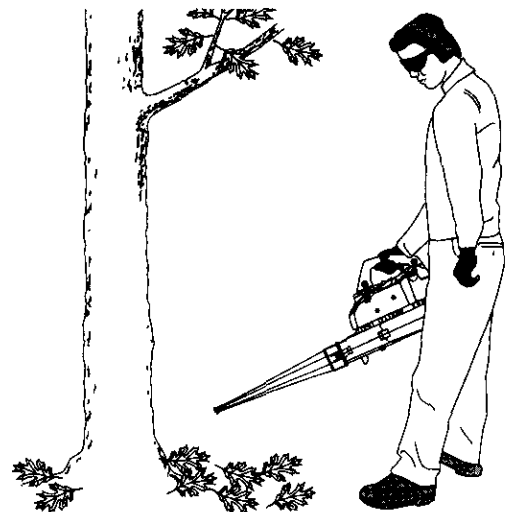

Fig. 15
2. Use for cleaning around gardens, shrubbery and trees (Fig. 15)